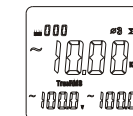

Figure 9-6
- As shown in Figure 9-6, please press “ Σ ” key to measure total three-phase power. Current measured power of the 3rd phase location also shall be calculated and saved.